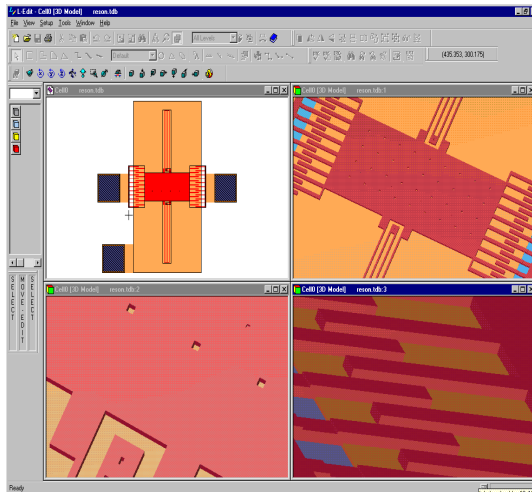

Figure 29: Tiling the windows displaying the 3D generation steps
- ☑ Select **Window > Tile** to tile the windows. All open windows will be resized so that they fit without overlapping (Figure 29). Each 3D model view may be manipulated independently.